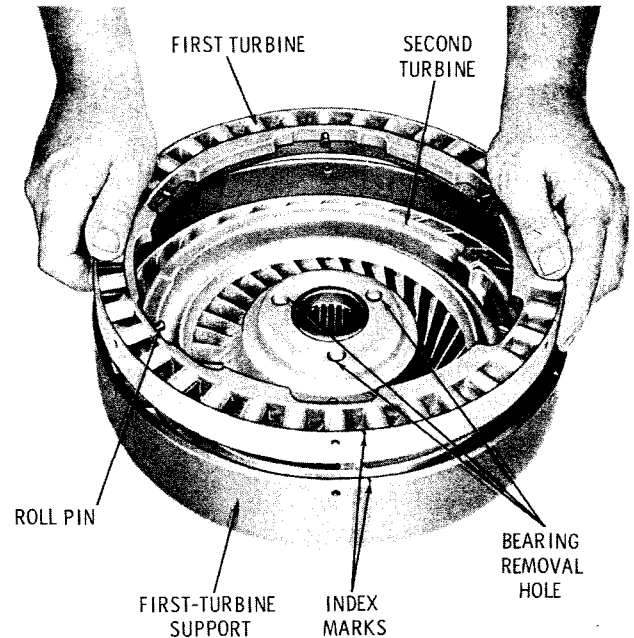

Fig. 6-4. Removing (or installing) first turbine
(3) Remove the first turbine from its support (fig. 6-4). Remove the second turbine and its bearing from the first-turbine support.
(4) If replacement is necessary, remove bearing 8 (foldout 7,A) from second turbine 6 by pressing lengths of drill rod through the three removal holes in the hub of second turbine 6. Remove snapping 7 from second turbine 6 only if replacement is necessary.
(5) If replacement is necessary, remove bearing 1 from first-turbine support 3 by pressing lengths of drill rod through the removal holes in the hub of first-turbine support 3.
(1) If removed, install bearing 1. Position the bearing, manufacturer's identification outward, and press it firmly to a seat against the hub of support 3.
(2) If removed, install bearing 8. Position the bearing, manufacturer's identification outward, and press the bearing firmly to a seat against the hub of second turbine 6. If snapping 7 was removed, install its replacement.
(3) Install the second-turbine (and bearing) into the first-turbine support (fig. 6-4).
(4) Install the first turbine into the first-turbine support and align the V-groove index marks (fig. 6-4).